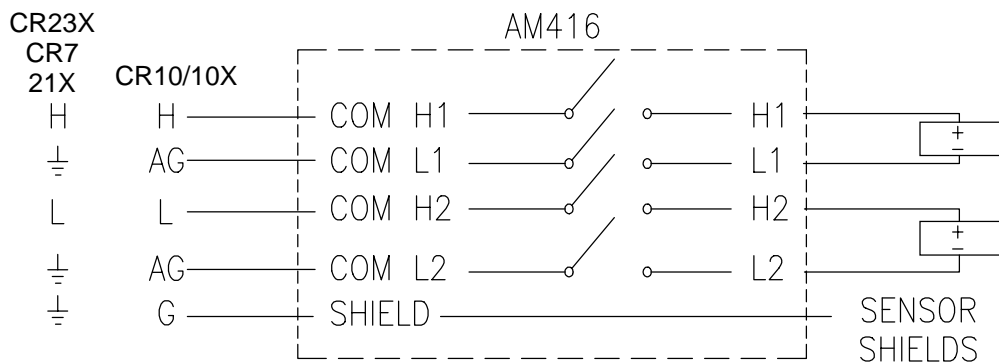

Figure 7 Single-ended Measurement Without Excitation
Multiplexer to datalogger wiring: Signal lines from COM terminals are connected to two consecutive single-ended analogue input channels. Signal ground lines are tied to analogue ground (AG) in the CR10/10X and datalogger ground (\perp) in the CR23X, 21X and CR7. The COM shield line is tied to datalogger earth ground (see Figure 7). Up to 32 single-ended sensors may be measured by two single-ended datalogger channels in this manner.